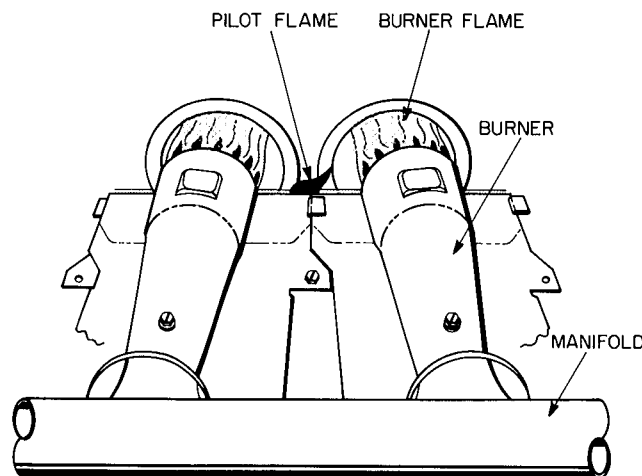

Fig. 5 — Proper Pilot and Burner Flames
2. Main burners should light 25 to 75 seconds after pilot. If main burners do not light within prescribed time period, adjust pilot flame, allow pilot to cool for 5 minutes, and repeat time check (Fig. 5).
- b. Turn adjusting screw either counterclockwise (out) to decrease input rate or clockwise to increase rate. When adjusting input rate, do NOT change manifold pressure more than 0.3 in. wg. Make any major adjustments by changing main burner orifices (Fig. 5).